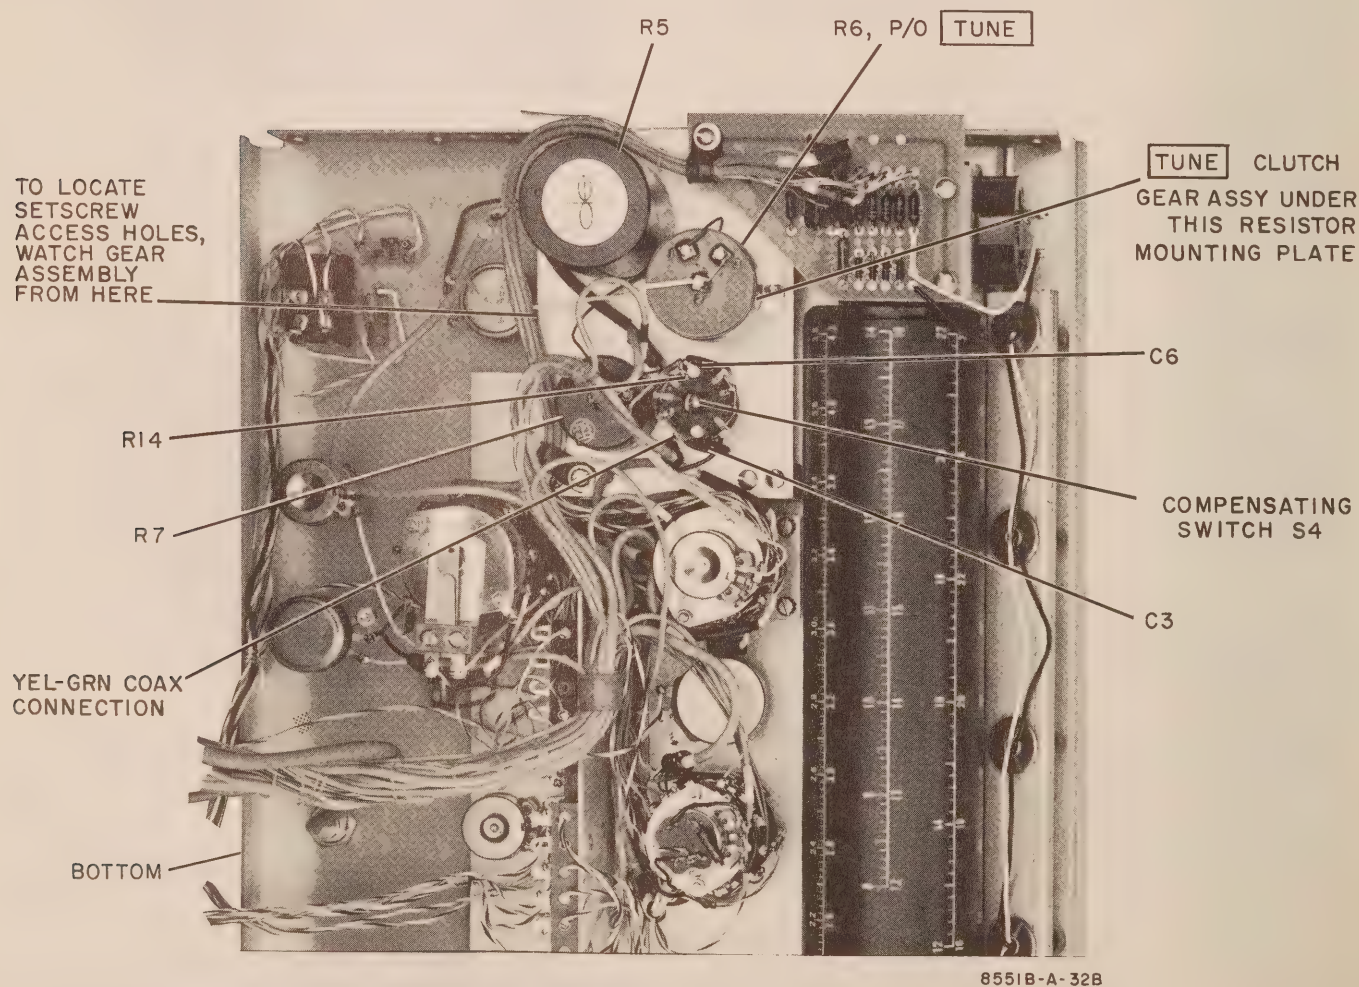
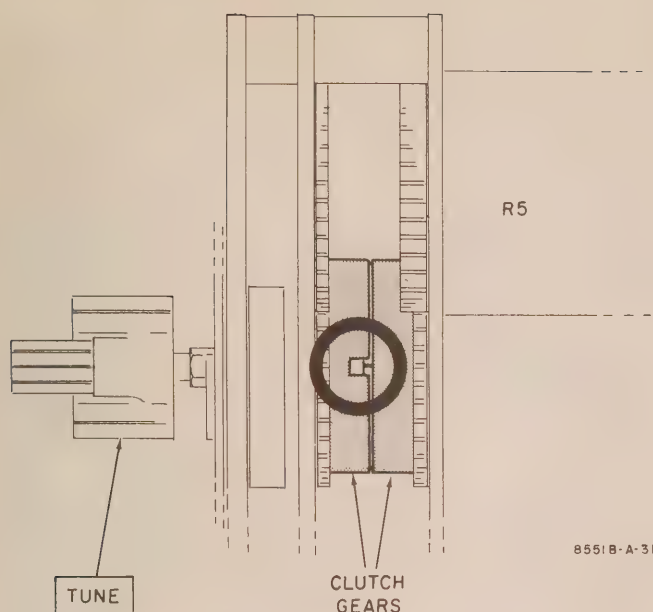

Figure 5-29. Portion of Rear of Front Panel, to Show Location of R6 and TUNE Clutch Gear Assembly, and Orientation of Gain-Compensating Switch S4
Figure 5-30. Setscrew-hole Locator in TUNE Clutch Gear Assembly
- (1) Locate Clutch Gears 77 and 82. They are located under the resistor mounting plate (see Figure 5-29), and can be seen when the gear assembly is viewed from the direction indicated in Figure 5-29. Location of clutch gears with respect to other gears seen looking in from bottom of instrument is indicated in Figure 5-30.
- (2) Pull TUNE out to COARSE position, and turn TUNE until slot is visible.
- (3) Push TUNE in to FINE position, and turn TUNE until setscrew-hole locator is visible. Setscrew-hole locator is shown in Figure 5-30; it is a narrow slot which can be seen through the larger slot.
- (4) When setscrew-hole locator is found, pull TUNE out to COARSE again. The first setscrew access hole is now exposed.
h. Using No. 8 Allen wrench to loosen setscrews (2), remove TUNE knob. TUNE knob is secured with cup-point setscrews, and shaft will be scored; file shaft smooth or shaft cannot be pulled out of panel and gear bearings.
j. Locate R6 (see Figure 5-29), and disconnect red lead from R6 Terminal 1 and white lead from Terminal 3.
r. Return TUNE knob to shaft and, using No. 8 Allen wrench, tighten setscrews (2).
- (1) Perform steps a, b, and c above.
- (2) Free front panel (see Paragraph 5-229), and drop it about 45 degrees.
- (3) Locate R7 (see Figure 5-29), and unsolder the yellow-red coded wire from Terminal S, the black wire from Terminal CCW, and the white wire from Terminal CW.
- (4) Loosen the 2 setscrews in the R7 shaft coupler.
- (5) Remove nut and lockwasher securing R7 to mounting bracket.
b. Location of Gain-Compensating Switch S4 on rear of front panel is shown in Figure 5-29. Note orientation of switch; strapped contacts face toward frequency scale drum, and switch resistors face toward Resistor R7.